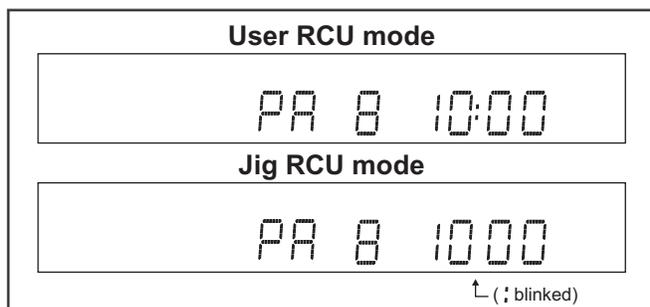

Fig.2-3a User/Jig RCU mode
- (1) Turn on the power.
- (2) Press the "DV/HDD/DVD" select button repeatedly on the unit so that the DVD lamp lights up on the unit.
- (3) Press the following remote keys continuously within 2 seconds "SET UP" → "2" → "8" → "ENTER". When the unit is set to the Jig RCU mode, the symbols (" : ") in the time display of the FDP are blinked. (Refer to Fig.2-3a User/Jig RCU mode)